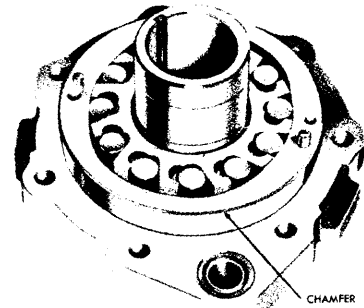

FIG. 33—Cam Ring Installation G1212
5. Place the cam ring on the dowel pins with the chamfered edge upward (Fig. 33). Place the rollers in the rotor.